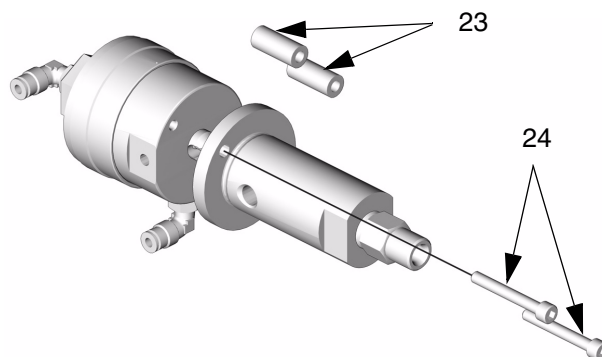

FIG. 2
4. Remove screws (24) and spacers (23). See FIG. 2.